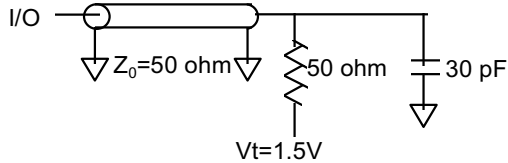

Fig.1 Output Load Equivalent
Output load	See Figures 1 and 2
5. Test conditions as specified with the output loading as shown in Fig. 1 unless otherwise noted.
15. Capacitance derating applies to capacitance different from the load capacitance shown in Fig. 1.